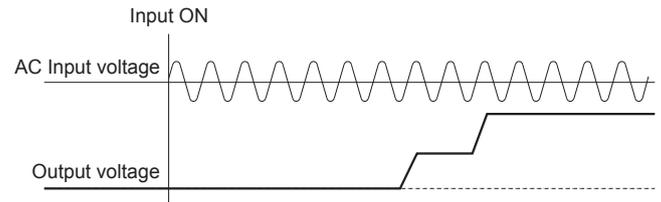

Fig.2.1 Start-up waveform in series and parallel operation
- ① The remote sensing is not available along with parallel operation.
- ② The peak capability is invalid in parallel operation.
- ③ In case that output voltage adjustment is required for modules connected in parallel, the modules should be adjusted individually. If precision adjustment is required, remove the copper bar between modules, adjust the output voltages individually, and refix the copper bar. The output voltage difference will appear as load regulation. To reduce the regulation, adjust the each output voltage to be the same value as possible.
- ④ When the output current changes rapidly such as pulse load, the output voltage fluctuation (dynamic load regulation) may increase. Therefore, please consult us the unit will be used for such an application.
- ⑤ Specification value of ripple and ripple noise is tripled.
- ⑥ Constant current function is not available.
- When in series and parallel, the output voltage at the start-up might have the step as shown in Fig.2.1.